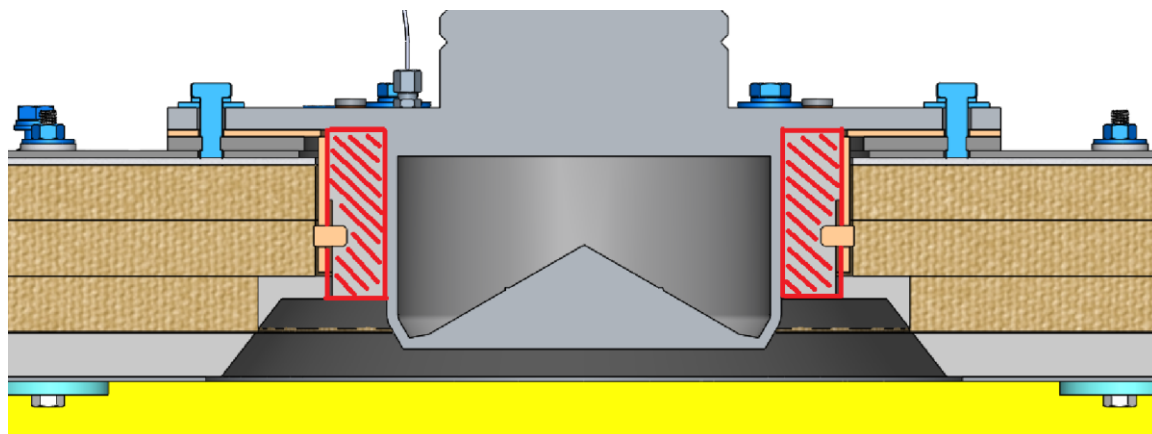

Figure 48 : Superwool (represented in red) between the burner nozzle mounting bracket and the burner
9. Fix the two (2) insulation closing plates (1060589 and 1060602).
11. Wrap superwool between burner nozzle mounting bracket (1059808) and the burner to fill the air gap, as shown in figure *Figure 48*.